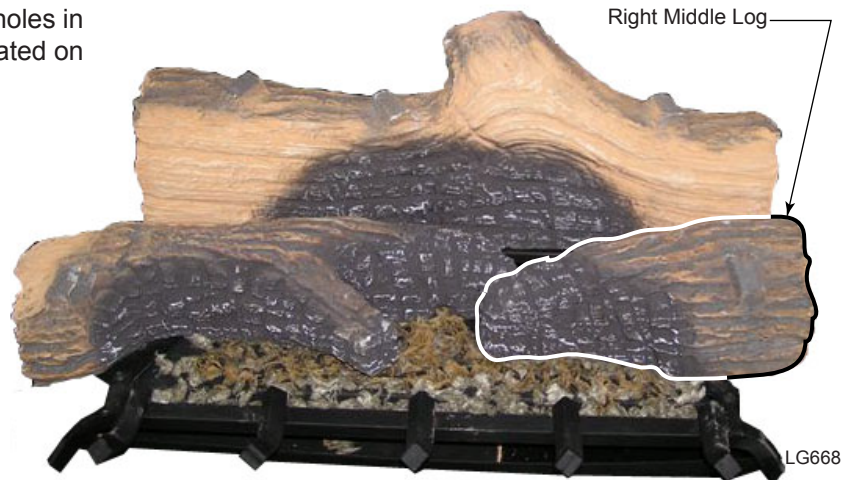

Figure 61 - Place Right Middle Log
- Place the right middle log by aligning the holes in the bottom of the log with the two pins located on the right side of the burner. *Figure 61*